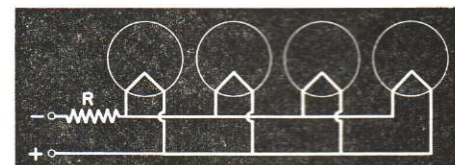

FIG. 23. Battery tube filaments are frequently connected in parallel.
► The filaments are generally connected in parallel to an A battery which furnishes about the correct voltage. If this voltage is too high, a series resistor is used to cut it down. Fig. 23 shows such a circuit; resistor *R* is used to drop the voltage to the correct amount. The difference in voltage between that required by the tubes and that furnished by the battery is the voltage which the